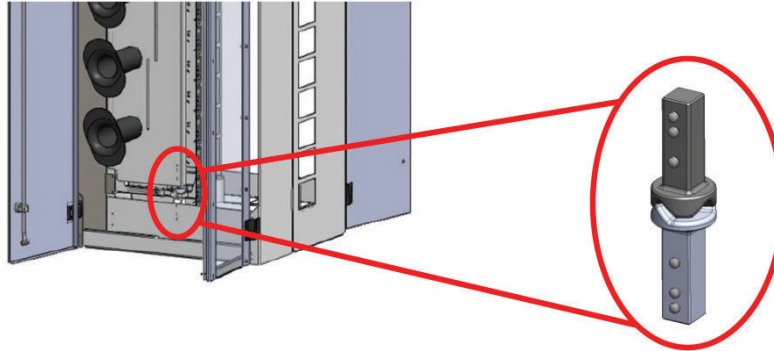

Figure 9
- 5.1.5.2 The hinge on the cable management door is a cam pivoting hinge (Figure 9). To open gently use a cable management spool to pull the door open.
- 5.5.2 Place the Deck over the screws and while supporting with one hand tighten each screw to hand tight torque (Figure 9).